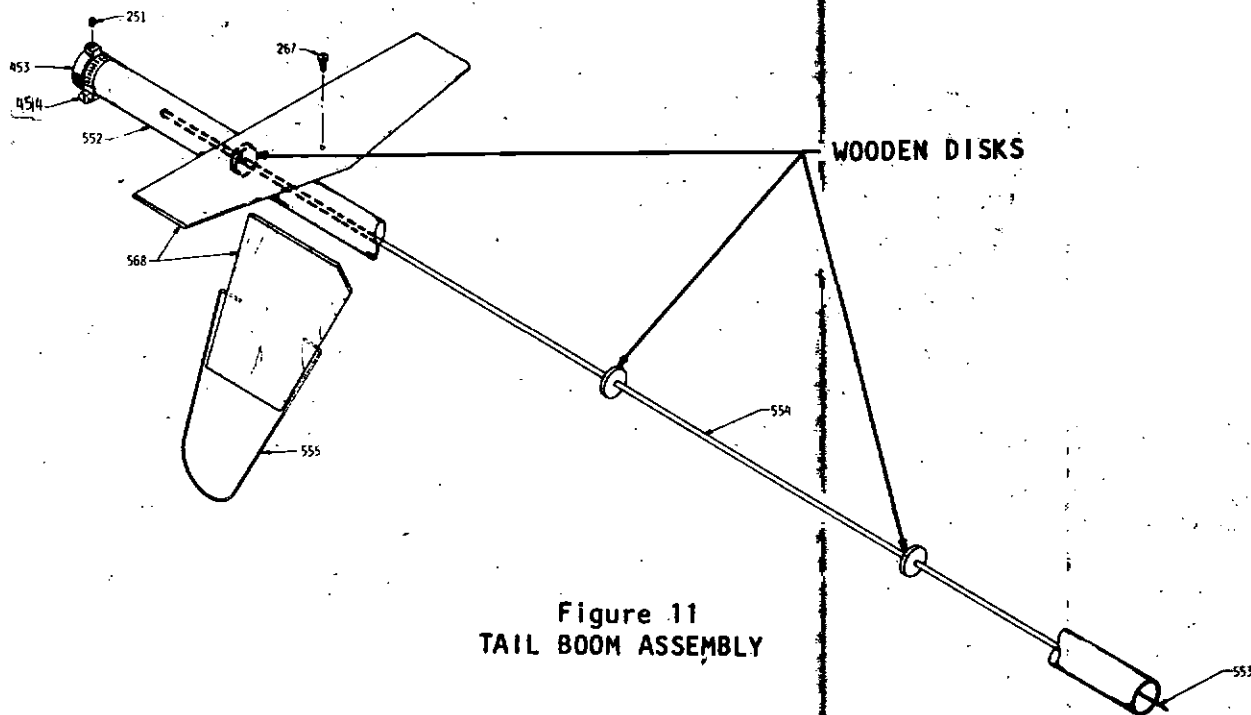

Figure 11
### STEP 14 TAIL BOOM ASSEMBLY - see Figure 11
- A. Drill a 1/16 inch hole into leading and trailing edge of the vertical fin. Cut away the leading and trailing edge of fin from the holes to bottom of the fin as shown in Figure 11. Bend 1/16 x 12 inch wire #555 to proper shape and epoxy in place. See figure 11.